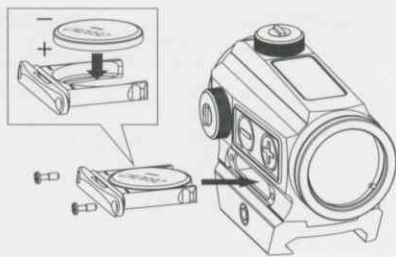

Fig 3-2
2) Battery installation (Fig 3-2):